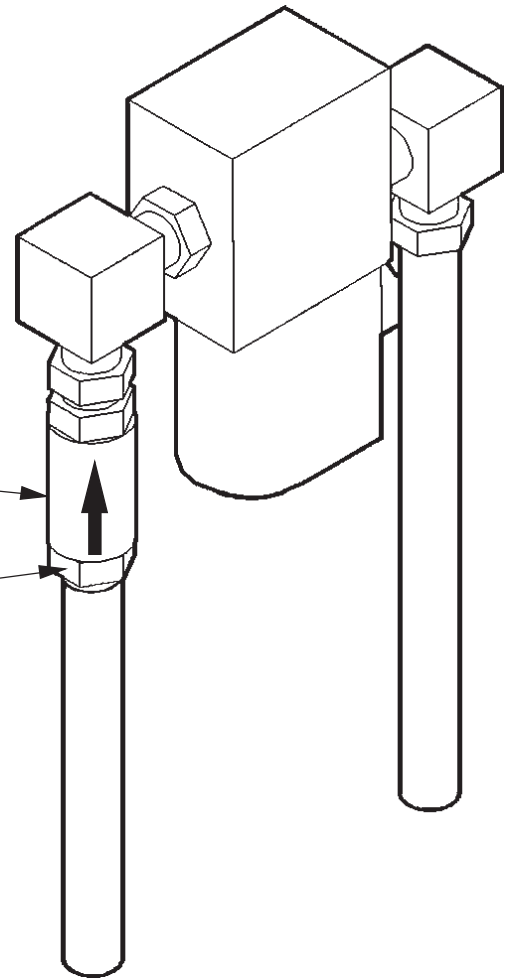

FIG. 3
2. Loosen, but do not disconnect the Cylinder Line Fitting from the Pressure Compensated Flow Control Valve (**FIG. 3**) on top of both Lift Cylinders.
4. Tighten Cylinder line fitting to Pressure Compensated Flow Control Valve (**FIG. 3**).